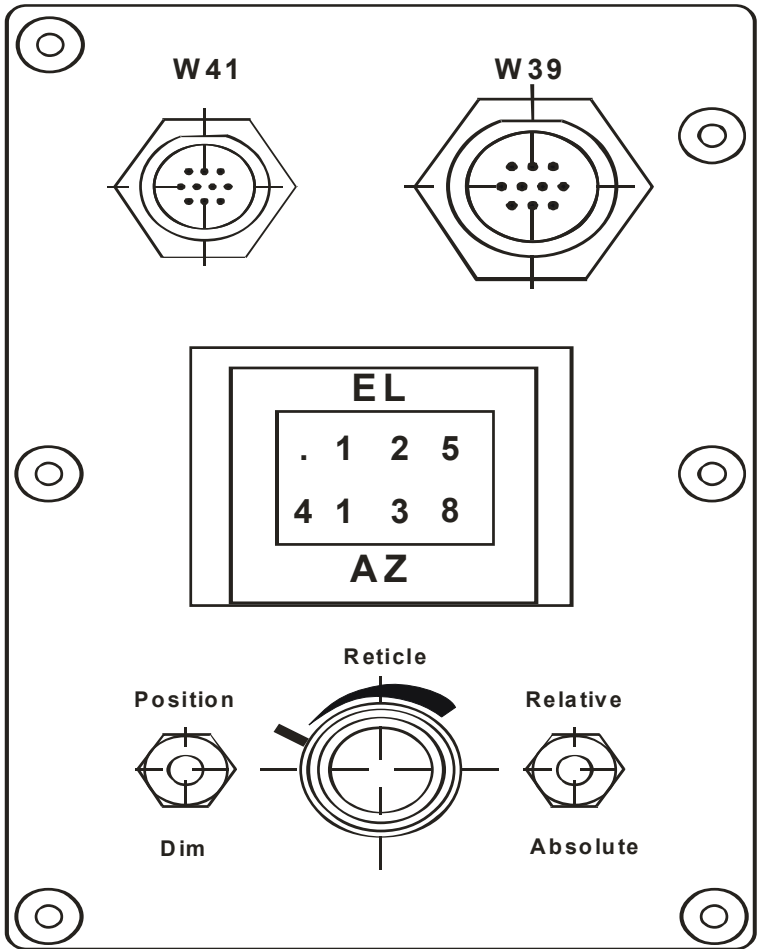

Figure 4-4-1: Gunner's Display Panel
11. **Gunner's Display Panel** (Figure 4-4-1). It is bolted to the turret casing to the left of the gunner. The gunner's display panel has a red LED display panel at the top of the box, a auto-alignment/dimmer switch to the left and a reload/collimation switch to the right.